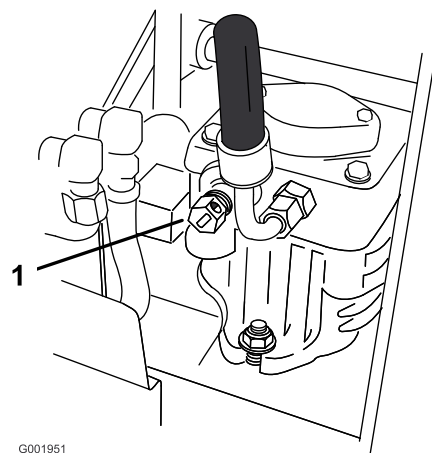

Figure 12
2. Open the by-pass valve on both pumps by turning them counter clockwise 1 to 2 turns. This allows hydraulic fluid to by-pass the pumps and the wheels to turn (Figure 12).